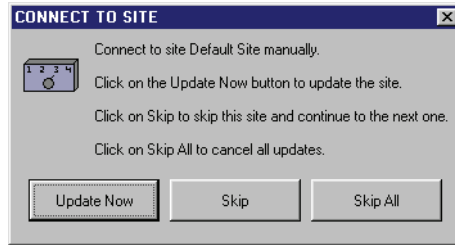

Figure 8-17: Connect To Site Window
2. Click on the  button to begin update of the network at each site. The Connect To Site window will appear (see Figure 8-17 on page 17 of this section).
5. Once the first site has been updated, the Connect To Site window will appear for the next site (see Figure 8-17). Repeat steps 3 and 4 for each site that is to be updated.